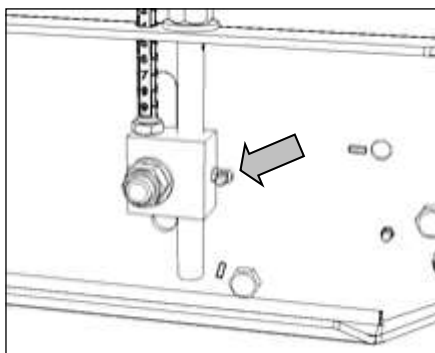

Fig. 46
2. **Height adjusters:** Grease **as required**. If the cutting height is never changed, greasing should not be necessary. Use multi-purpose grease (Fig. 46).